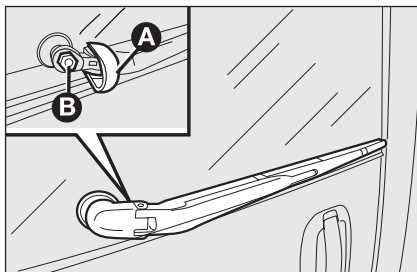

fig. 11
- ☐ lift the cover **A**-fig. 11 and disassemble the arm from the vehicle by turning the nut **B** securing it to the rotation pin;